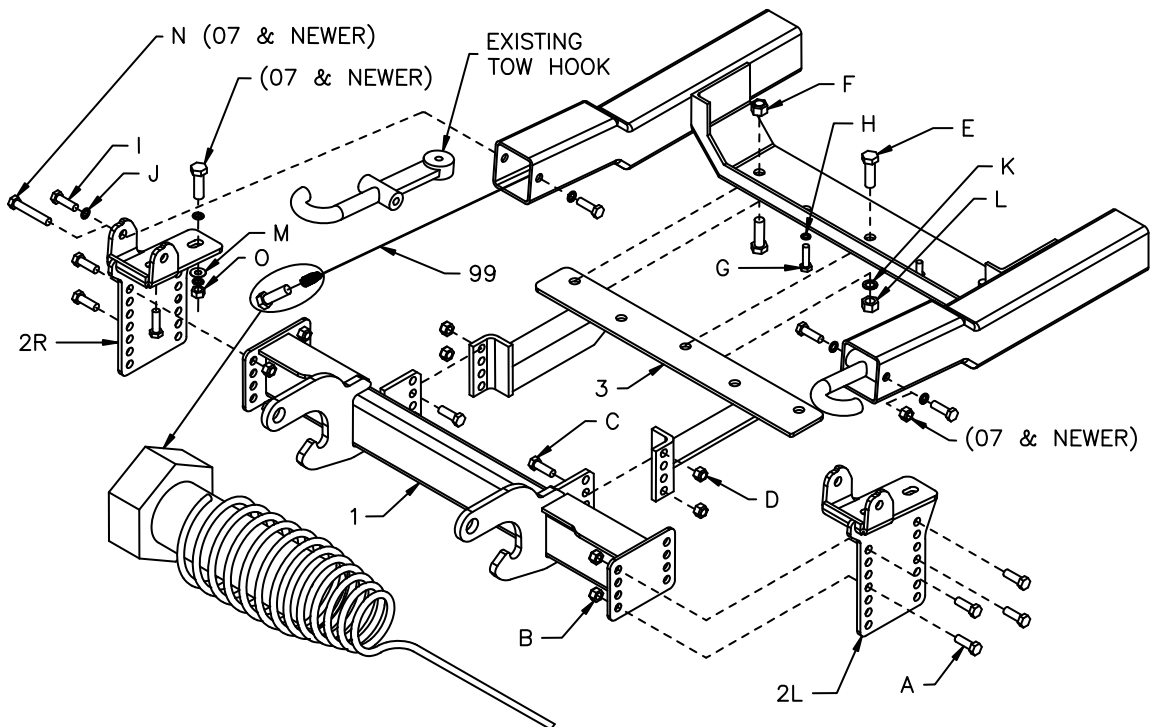
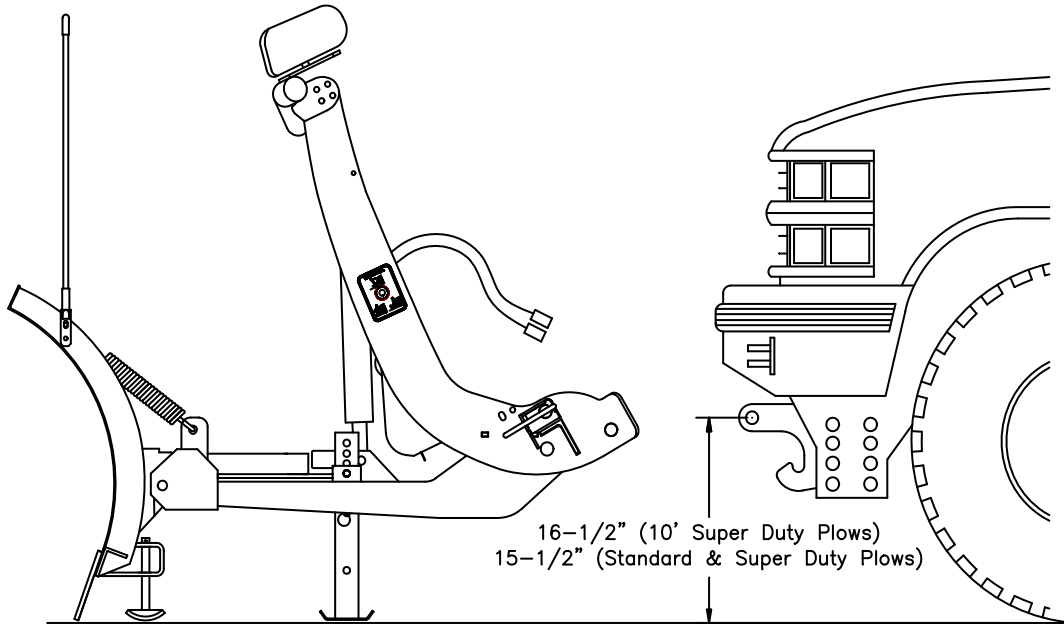

Figure 1
Figure 2
1. Remove the six mounting bolts being used on the two tow hooks and position the PUSH BEAM SUPPORT PLATES (Ref. 2L and R, Fig. 1) to the front frame rails of the truck. Use M12-1.75 x 40mm hex head bolts (I), M12 lock washers (J) and ½" flat washers (M) to bolt the PUSH BEAM SUPPORT PLATES through the frame rail to the tow hooks (see Fig. 1). With both support plates in place two slots should be cut in the air dam for clearance of the support plate bottom plates (Ref. 2L and R). Fasteners should only be finger tight.
2. Remove the five rear existing bolts holding the plastic skid plate in place on the vehicle. Use M10-1.5 x 40mm hex head bolts (G), M10 lock washers (H), 5/8"-11x2" hex head bolts (E), 5/8"-11 self locking nuts (F), 5/8" lock washer (K), and the 5/8"-11 nut (L) to mount the ANGLE BRACKET (Ref. 3, Fig. 1) into place on the inside of the skid plate. The skid plate will have to be cut for clearance of the 5/8"-11 nut and 5/8" washer. Bolts should only be finger tight.
3. Bolt PUSH BEAM (Ref. 1, Fig. 1) in place using 1/2"-13x1-1/2" grade 5 hex head bolts (A), 1/2"-13x1-1/2" grade 8 hex head bolts (C), and nylon lock nuts (B) and grade C (D) nuts provided. To achieve the proper push beam height the push beam will need to be pushed up into the air dam causing deformation of the plastic. Fasteners should only be finger tight. NOTE: The proper height adjustment for the PUSH BEAM is approximately 15-1/2" from the ground to the center of the PUSH BEAM pin-receiving hole (See Figure 2).